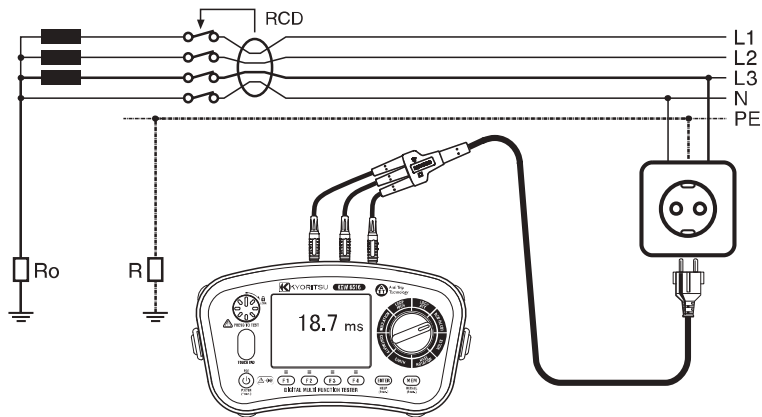

Fig. 11-1
In Fig. 11-1, when grounding is incomplete and R exists, voltage occurs to R if fault current flows in R. Person may touch this voltage, and the voltage occurs to a person at this bout is called as Uc.
(7) Connect the test leads to the circuit to be tested. (Fig. 11-1, 11-2, and 11-3)
(8) Wiring Check